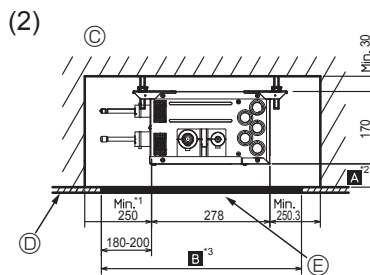
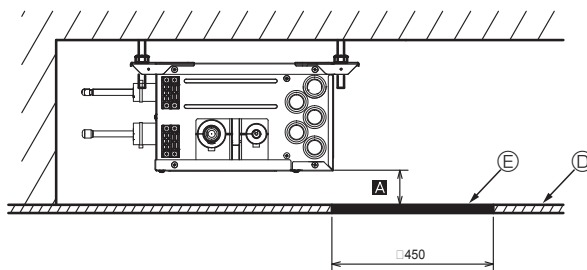
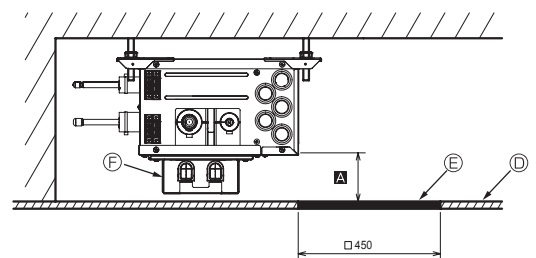

Fig. 2-7
Fig. 2-8
Fig. 2-9
(2) Side View (Fig. 2-7, Fig. 2-8, Fig. 2-9)
To install the optional reactor box, set Ⓐ to Min. 270 mm <recommendation> (Fig. 2-9)
In the case of "450 mm", prepare a maintenance hole at a PCB side (as it is shown in Fig. 2-8, Fig. 2-9), and "Min. 300 mm" is needed as distance Ⓐ.